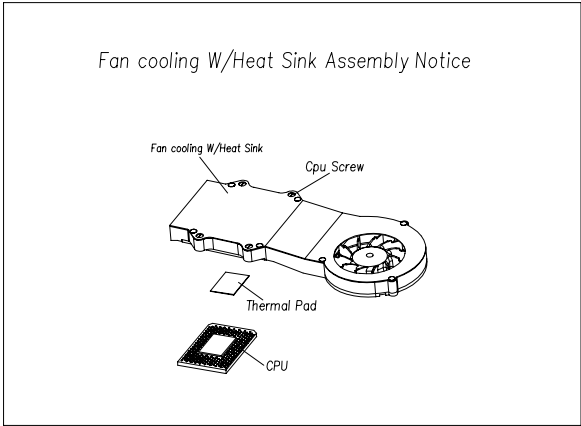

Figure 3-8: Fan cooling with heatsink assembly installation
6. In order to make heat dissipation much better, apply an even thickness of the silicone heat sink paste on the top of the CPU, the heat sink with thermal pad is then placed on the top of the CPU (Figure 3-8).